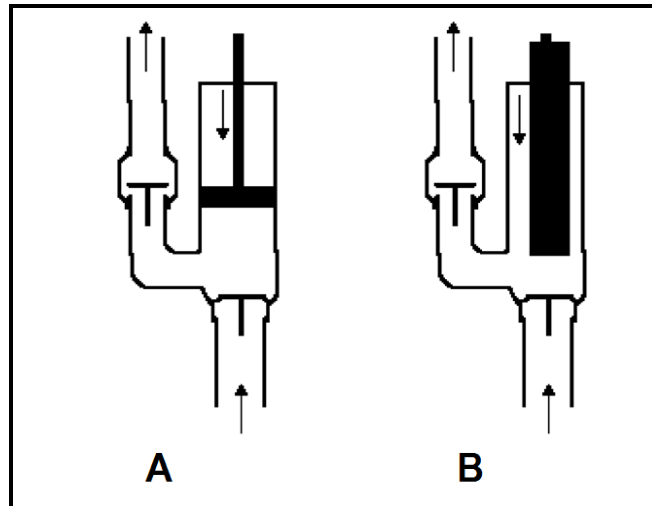

FIGURE 2
7.1 FIGURE 2 shows diagrams of two pumps. Study the diagrams and answer the questions.
7.1.1 Name the pumps labelled A and B in FIGURE 2. (2)